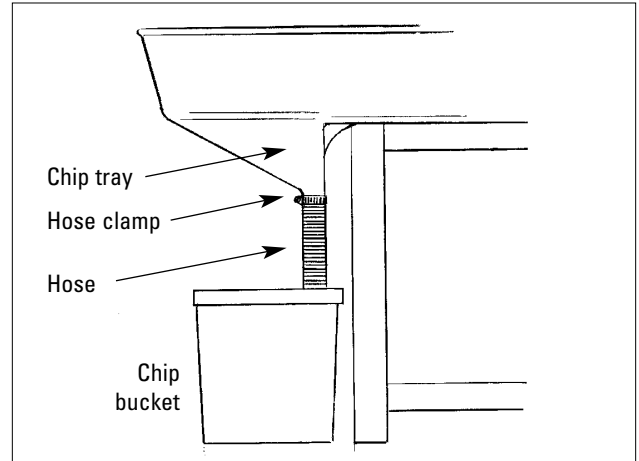

Figure 8 – Chip hose and bucket
39. Attach the 2" chip tube to the fitting under the Enclosure chip tray with the hose clamp (fig. 8).